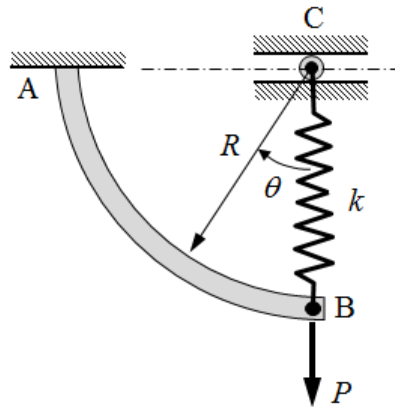

Figure 1.2
- (b) Figure 1.2 shows a weightless curved beam AB that forms a quadrant of a circle of radius R . The beam is rigidly fixed at end A and supported by a spring of stiffness k at end B. The free length of the spring is R . The top end of the spring is connected to a pin (at C) that is guided to move horizontally so that the spring remains vertical all the time. End B carries a vertical force P as shown. The bending rigidity of the beam is EI .